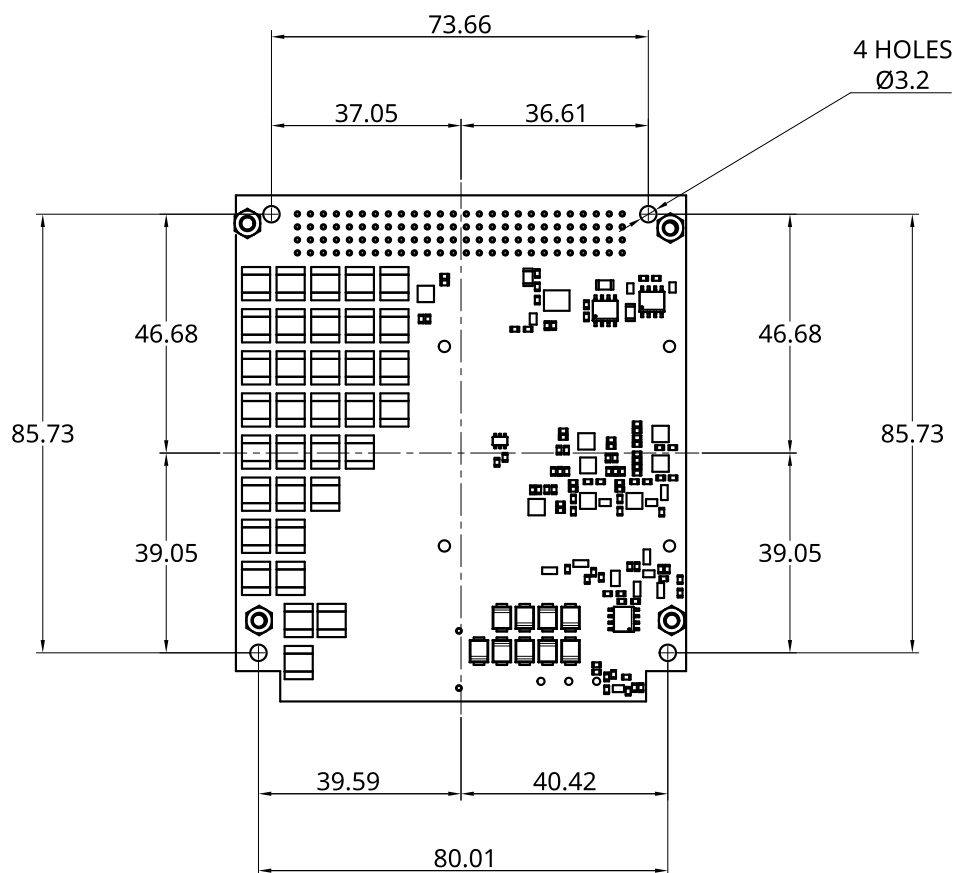

Figure 4-1: Mounting Interface
The Kit is mounted to the safety enclosure via four (4) M3 fastener holes (3.2 mm diameter clearance) through the Kit boards along the Z-axis as shown in Figure 4-1 below. Threaded hex spacers are installed for structural rigidity. The mounting footprint conforms to the standard CubeSat PC104 form factor.